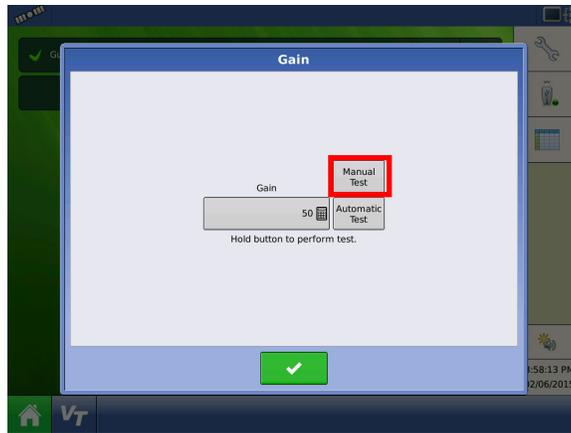

Figure 29: Roll Gain Screens
- f) Navigate to the roll gain screen (Figure 27 and Figure 29).